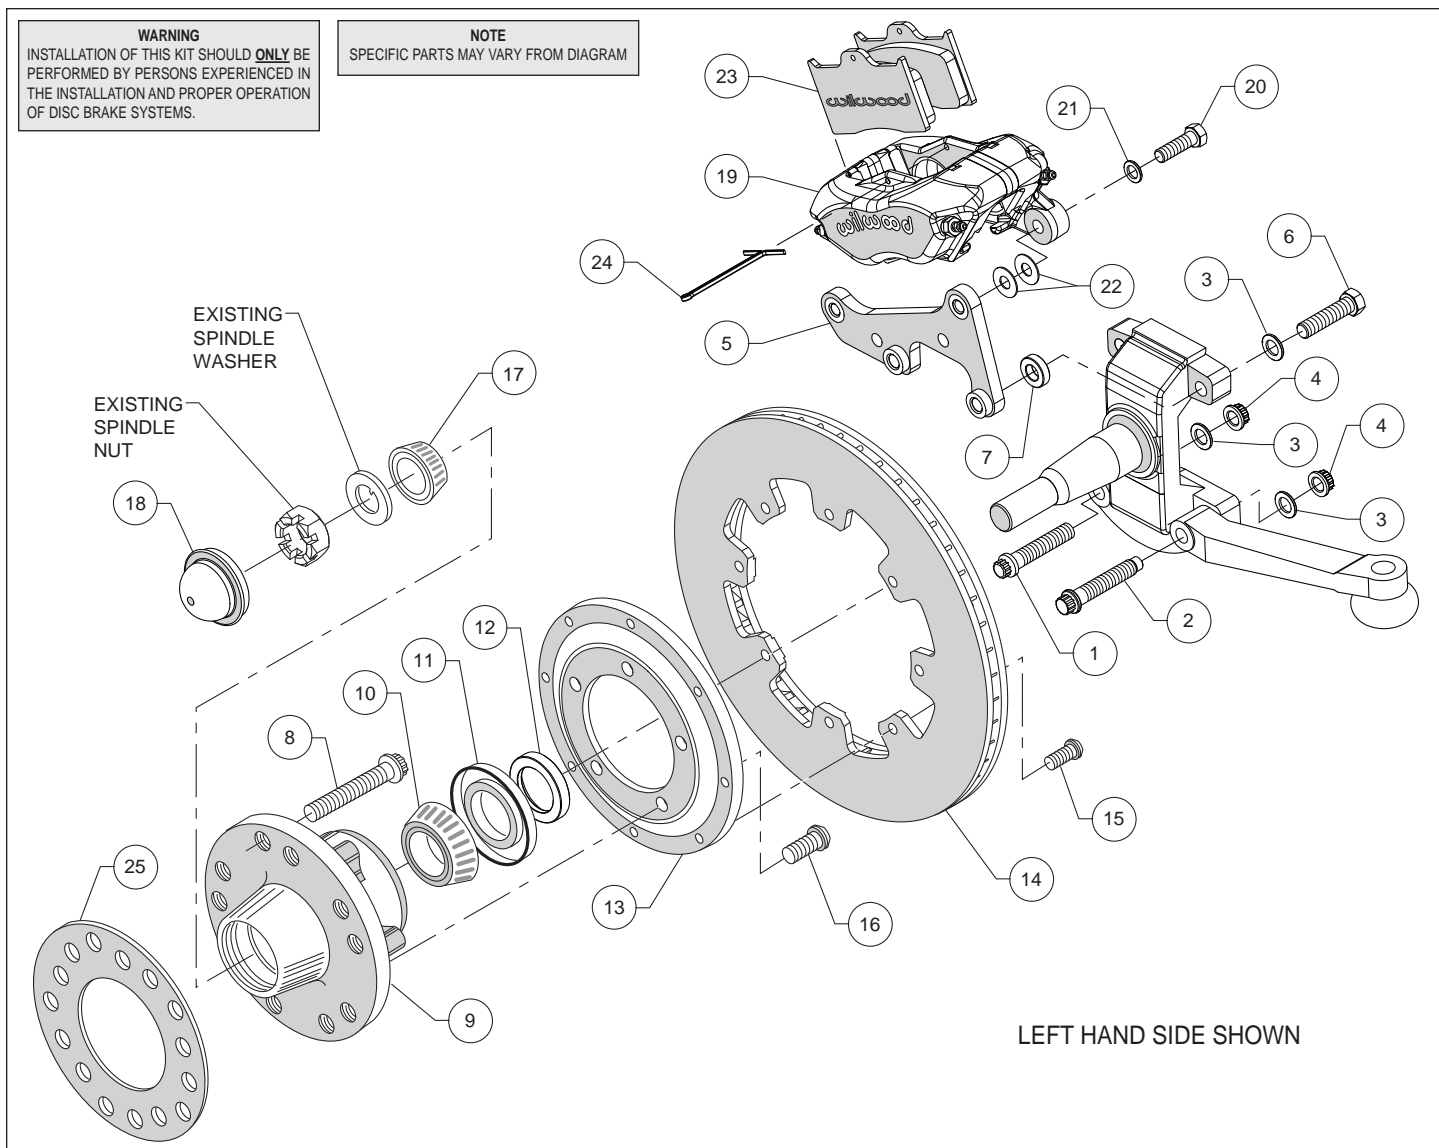
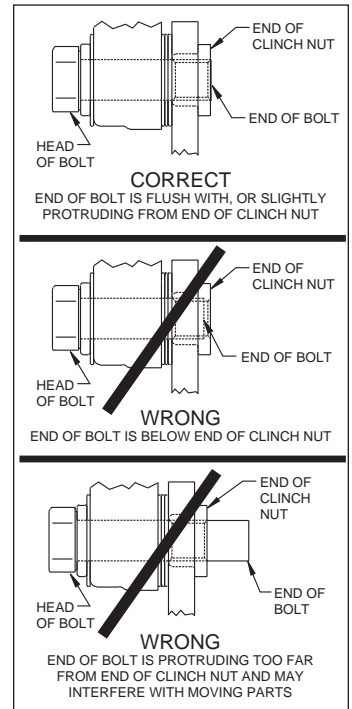

Figure 1. Typical Installation Configuration
Figure 3. Clinch Nut Engagement Diagram
Assembly Instructions (numbers in parenthesis refer to the parts list and Figure 1 on the preceding pages): **CAUTION:** All mounting bolts must fully engage clinch nuts. Be sure to check that all bolts are either flush or protruding through flanged side of clinch nut after shimming, Figure 3.
- One at a time, remove the two lower OEM bolts that secure the steering arm from the back side of the spindle. Replace with bolt (1), in the forward most hole, and bolt (2) in the rear hole, Photo 1. **NOTE:** The longer bolt with the end of the threads turned down is the steering stop. The new bolts are installed in the opposite direction as the original bolts, from the outside, Photo 2. Secure bolts using washer (3) and nut (4) as shown in Figure 1. Torque nuts to 47 ft-lb.
- Orient the caliper mount bracket (5) as shown in Figure 1 and Photo 2, and install using bolts (6) and washers (3). Place spacers (7) between spindle and bracket. Ensure that the flanged heads of the clinch nuts in the bracket are facing outboard, Photo 2. Temporarily tighten the mounting bolts. **NOTE:** The bracket must fit squarely against the mount bosses on the upright. Inspect for interference from casting irregularities, machining ridges, burrs, etc. Remove bolts one at a time, apply red *Loctite*® 271 to the threads and torque to 60 ft-lb.
- Install wheel studs (8) into the hub (9), Photo 3. Torque to 77 ft-lb. **NOTE:** There are two five lug patterns in the hub (5 x 4.75 and 5 x 5.00). Ensure the correct hub stud pattern is being used to fit the wheel application.
- Pack the large inner bearing cone (10) with high temperature disc brake bearing grease (available from your local auto parts store) and install into the backside of the hub (9), Photo 4.
- Install the grease seal (11) by pressing into the backside of the hub (9), flush with the end of the hub, Photo 4.
- Orient the rotor (14) and the rotor adapter (13) as shown in Figure 1 and Photo 5. Attach the rotor to the adapter using bolts (15). Using an alternating sequence, apply red *Loctite*® 271 to the threads, and torque to 25 ft-lb.
- Mount the adapter/rotor assembly (13/14) to the hub (9) using bolts (16), as shown in Figure 1 and Photo 6. Using an alternating sequence, apply red *Loctite*® 271 to the threads, and torque to 55 ft-lb.
- Pack the small outer bearing cone (17) with high temperature disc brake bearing grease and install into hub (9). Slide the hub/rotor assembly onto the spindle. Secure using OEM spindle washer and nut, Photo 8. Adjust bearings by tightening the wheel bearing nut to 60 **in-lbs.** while turning the hub/rotor assembly. Back off the adjusting nut one slot and install a new cotter pin (not supplied). **The resulting adjustment should be zero (no pre-load to 0.003 inch end play).**
- Press the dust cap (18) into the hub (9), Photo 9.
- NOTE:** Please reference the caution statement at the beginning of the assembly instructions. Mount the caliper (19) onto the caliper mounting bracket (5) using bolts (20) and washers (21), as shown in Figure 1. Initially place two .035" thick shims (22) on each bolt between the caliper and the bracket, Photo 10. Temporarily tighten the mounting bolts and view the rotor (14) through the top opening of the caliper. The rotor should be centered in the caliper, Photo 11. If not, adjust by adding or subtracting shims between the bracket and the caliper. Always use the same amount of shims on each of the two mounting bolts. **NOTE:** The end of each bolt must be flush with or slightly protruding from the head of the clinch nut, as shown in Figure 3. If necessary place spare shims between washer (21) and caliper mounting ear to achieve the proper clinch nut engagement. Once the caliper alignment and clinch nut engagement are correct, remove the bolts one at a time, apply red *Loctite*® 271 to bolt threads, and torque to 40 ft-lb.
- Install the disc brake pads (23) into the caliper, with the friction material facing the rotor (14), and secure in place using cotter pin (24), Photo 12.
- Install wheel spacer (25) as shown in Figure 1 and Photo 13. Temporarily install wheel and torque lug nuts to manufacturer's specification. Ensure that the wheel rotates freely without any interference. **NOTE:** Wheel spacer (25) MUST be used if any wheel contact surfaces overhang the outside diameter of the hub face. See warning on page 3.